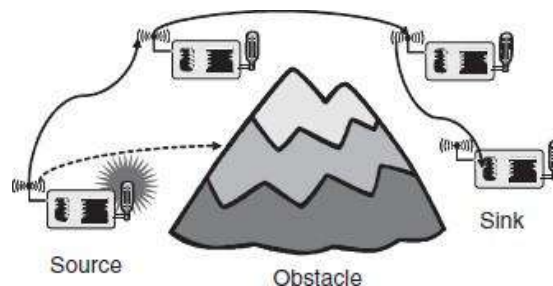

Figure 2.6 Multi-hop networks: As direct communication is impossible because of distance and/or obstacles
- In WSNs, to cover a lot of environment the data packets taking multi hops from source to the sink. To overcome such limited distances it better to use relay stations. The data packets taking multi hops from source to the sink as shown in Figure 2.6.